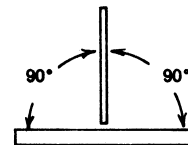

Figure 1.3
2. Position the electrode at a 90-degree work angle and a 45-degree travel angle, opposite the direction of travel. See Figures 1.3 and 1.4.